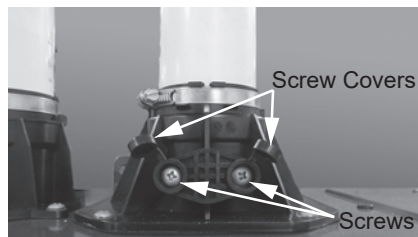

Figure 65 - Emissions port screw removal
- 5 Remove screws and set aside in a safe place for reinstallation. See Figure 65.